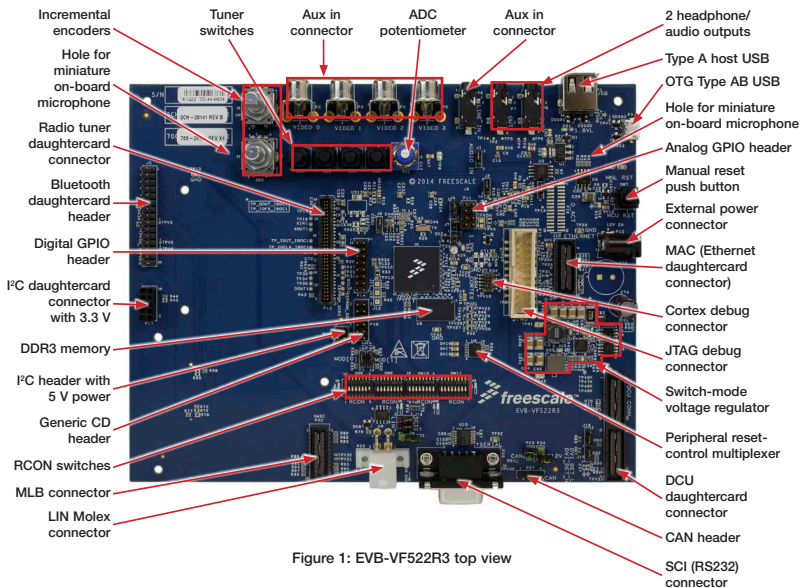

Figure 1: EVB-VF522R3 top view
- Plug headphones or active speakers into the audio output (see Figure 1).